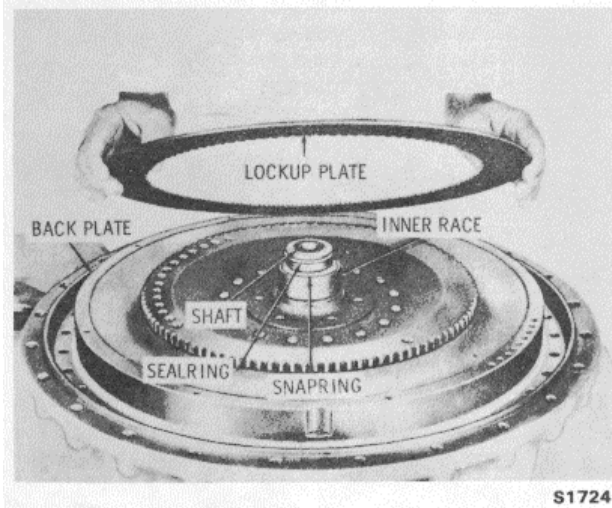

Figure 15-177. Installing Lockup Clutch Plate
3. Install the roller bearing inner race (Figure 15-177). Install the snap ring to retain the race. Install the seal ring onto the turbine output shaft.
4. Install the lockup clutch backplate, flat side upward, onto the torque converter pump (Figure 15-177). Install the lockup clutch plate.